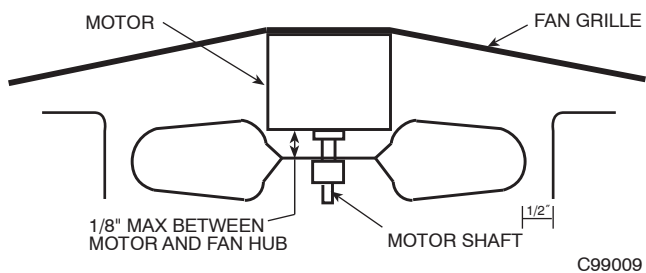

Fig. 11—Fan Blade Clearance
- a. Make sure that condenser-fan blade is correctly positioned in fan orifice. Leading edge of condenser-fan blade should be 1/2 in. maximum from fan orifice (See Fig. 11).